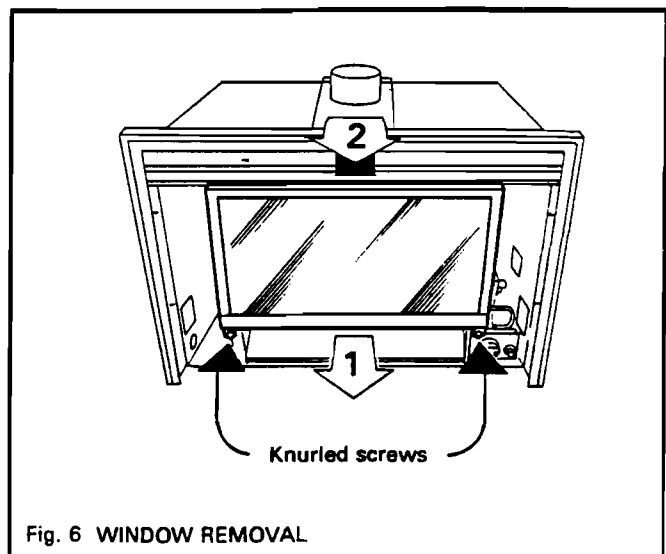

Fig. 6 WINDOW REMOVAL
- 2.1.3. **Remove Window and Logs (see Fig. 6)**